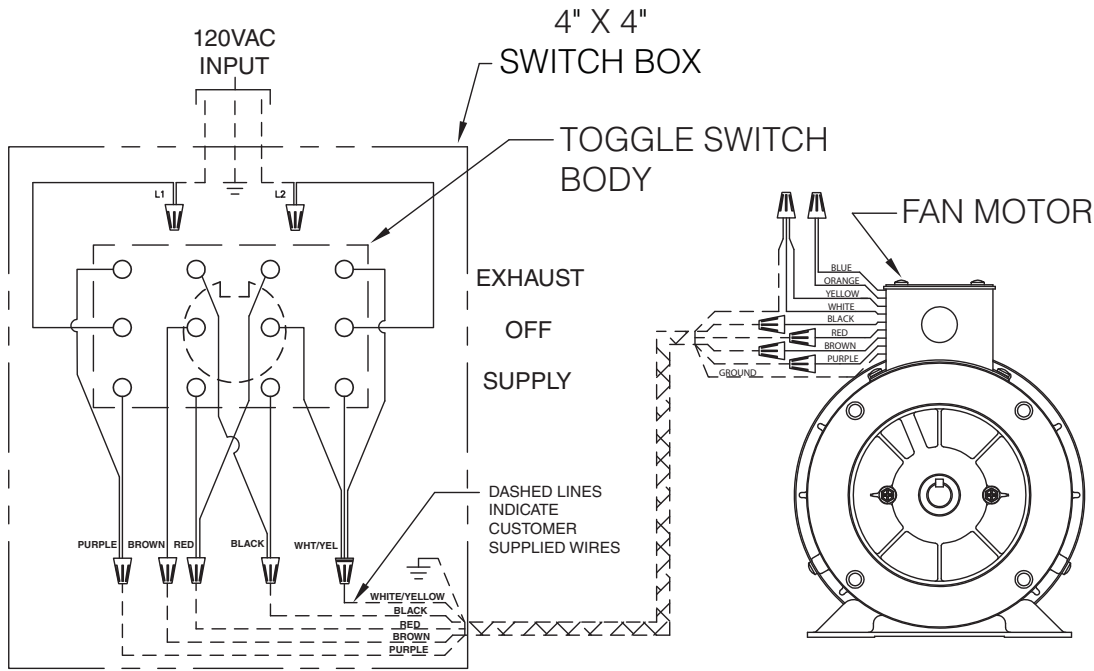

Figure 6 — 120VAC Single Phase
- Refer to wiring diagram supplied with the reversing switch to wire motor through switch. See Figures 6, 7, 8, and 9 on pages 4 and 5.